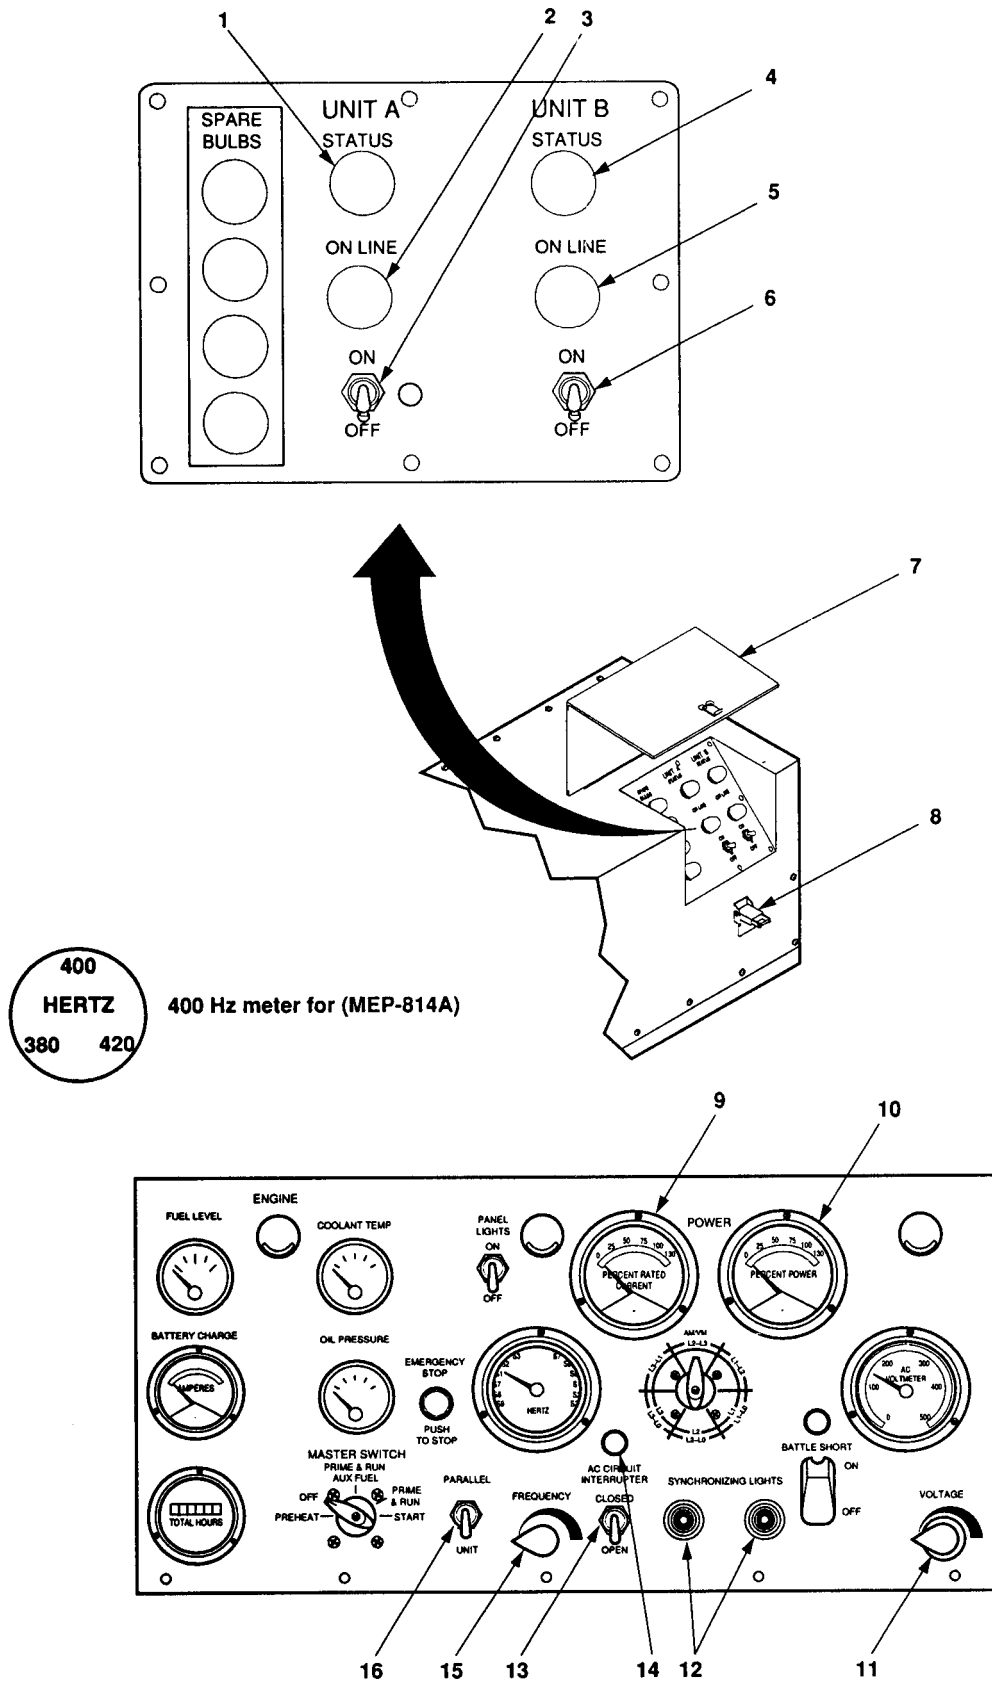

Figure 2-10. Power Plant Operation.
- b. Release the clamping catch (8, figure 2-10) and open the control panel access cover (7).
- j. Close the control panel access cover (7) and secure with clamping catch (8).